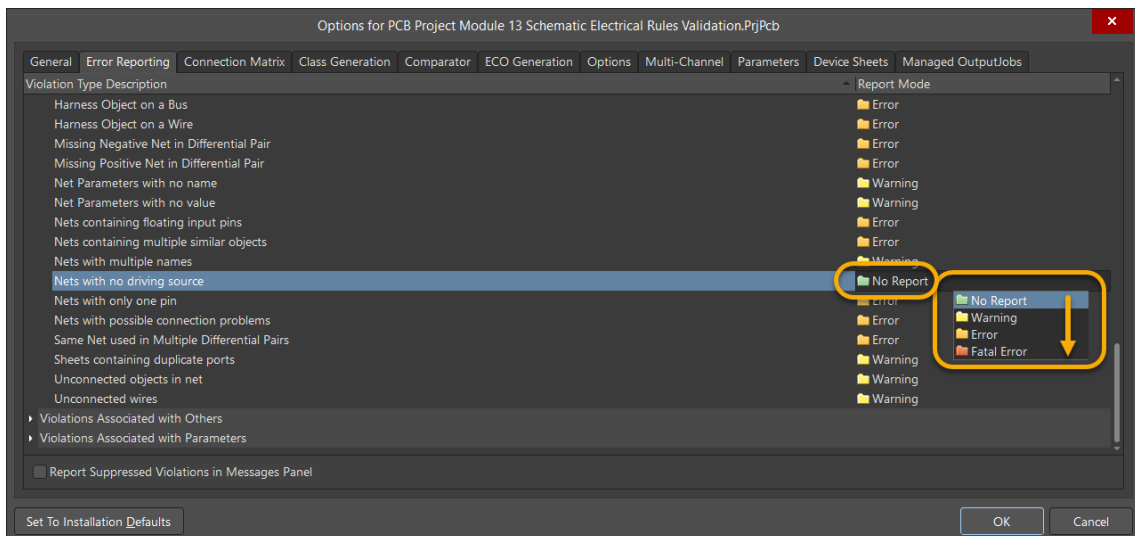

Figure 12. Net Violation Setting
38. In the *Error Reporting* tab, find the *Violations Associated with Nets* section, Figure 12.